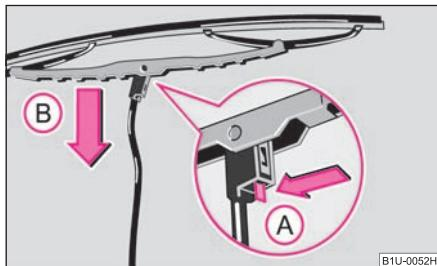

Fig. 51 Wiper blade for the windscreens wiper
- Press the securing spring in the direction of arrow **A** and press the wiper blade at the same time to the windscreens **B** - Warning, danger of breaking the windscreens. ⇒ fig. 51 ⇒ .